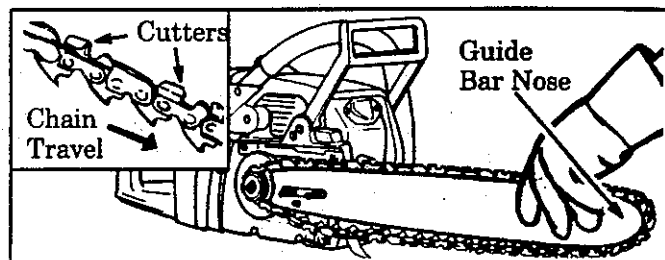

Figure 8
- Hold the chain with the cutters facing as shown in Figure 8 (inset).
- Fit the bottom of the chain drive links into the groove on top of the guide bar, then around the guide bar nose. Figure 8.